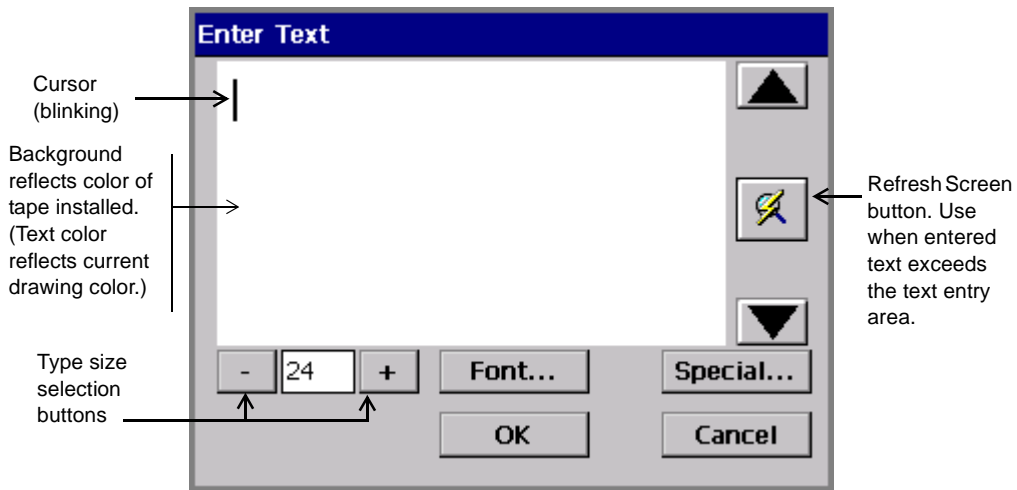

Figure 7-3. The Enter Text screen.
2. Press **Font** on the **Enter Text** screen, shown in Figure 7-3 on page 7-6.
1. On the **Enter Text** screen (Figure 7-3), choose **Special**.